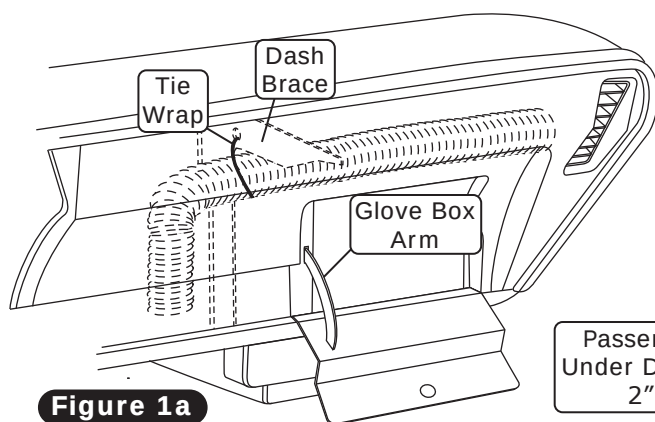

Figure 1a
2. Install the supplied foam around the OEM passenger-side under dash louver hose adapter as shown in Figure 1a, below.
2. Install the hose adapter onto the OEM driver-side under dash louver using (2) #8 x 1/2" pan head screws as shown in Figure 1a, below.
3. Route the passenger-side duct hose as shown in Figure 1a, below.
4. Tie wrap the duct hose to the dash brace for glove box clearance (See Figure 1a, below).